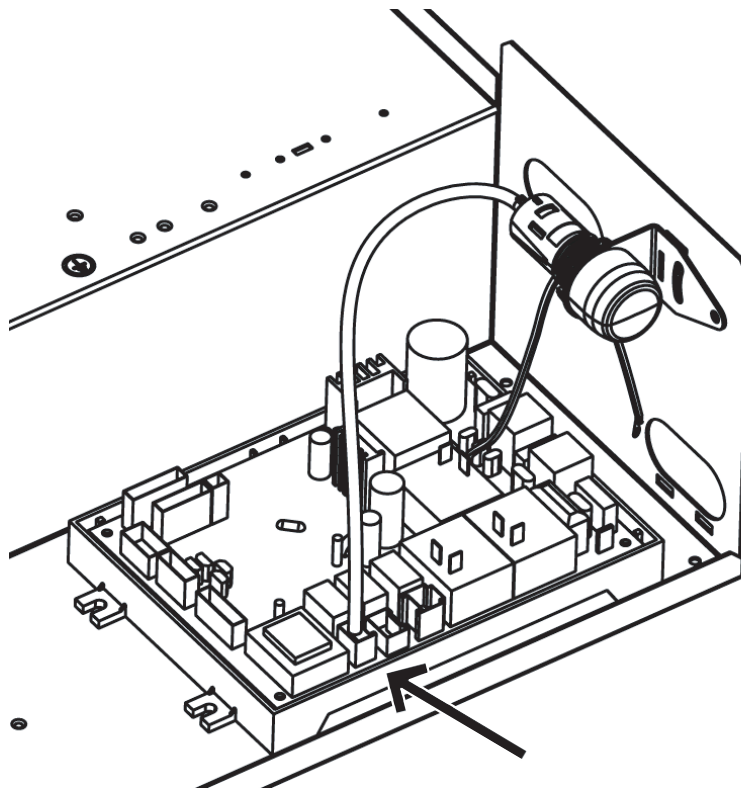

Figure 5. Connecting Wiring Harness to CN4 on CCB
- 5) Plug the wire harness into the control board in the location marked CN4 as shown in Figure 5.